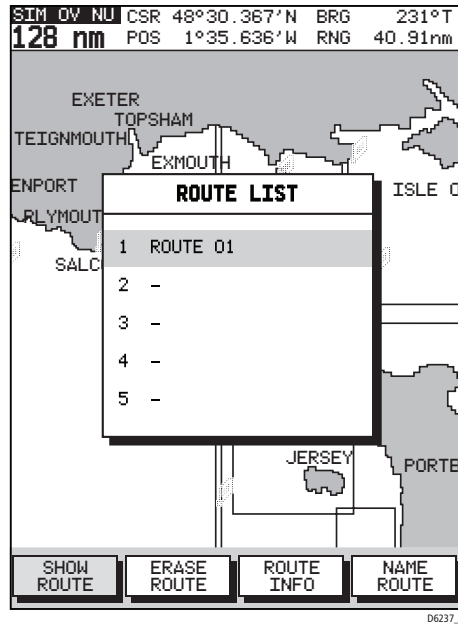

Figure 5-2: Route List Display
1. Select ROUTES, followed by MORE, then ROUTE LIST. The route list is displayed with the currently selected route highlighted (*Figure 5-2*).